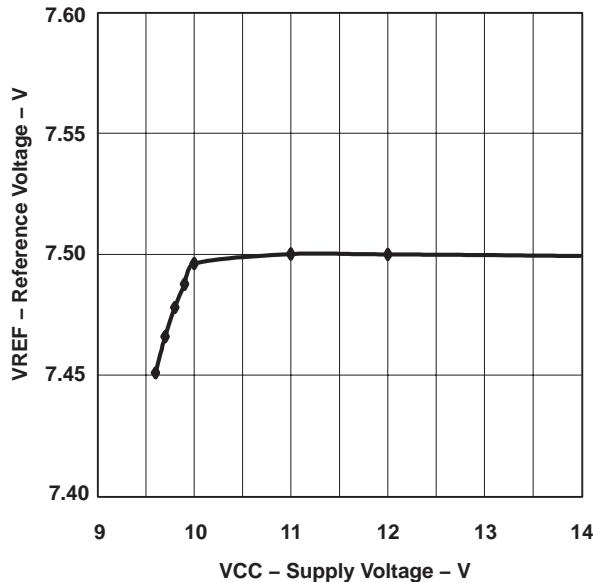

Figure 2
(2) Reference variation for  $V_{CC} < 10.8\text{ V}$  is shown in Figure 2.